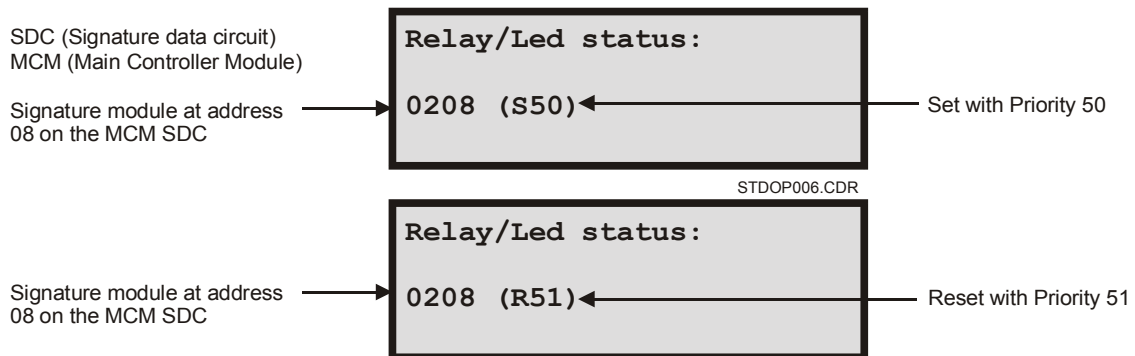

Figure 8: Typical LED/relay status screens
3. Press Enter until you see the Relay/LED status screen (Figure 8).